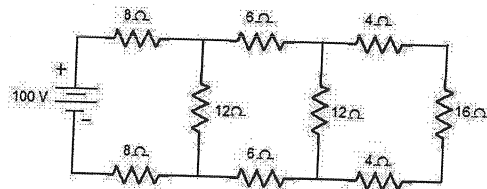

Fig.6
4. For the circuit shown in fig.6 Calculate, a) equivalent resistance between the supply terminals b) Current supplied by the source c) Power consumed by the 16 ohm resistor.